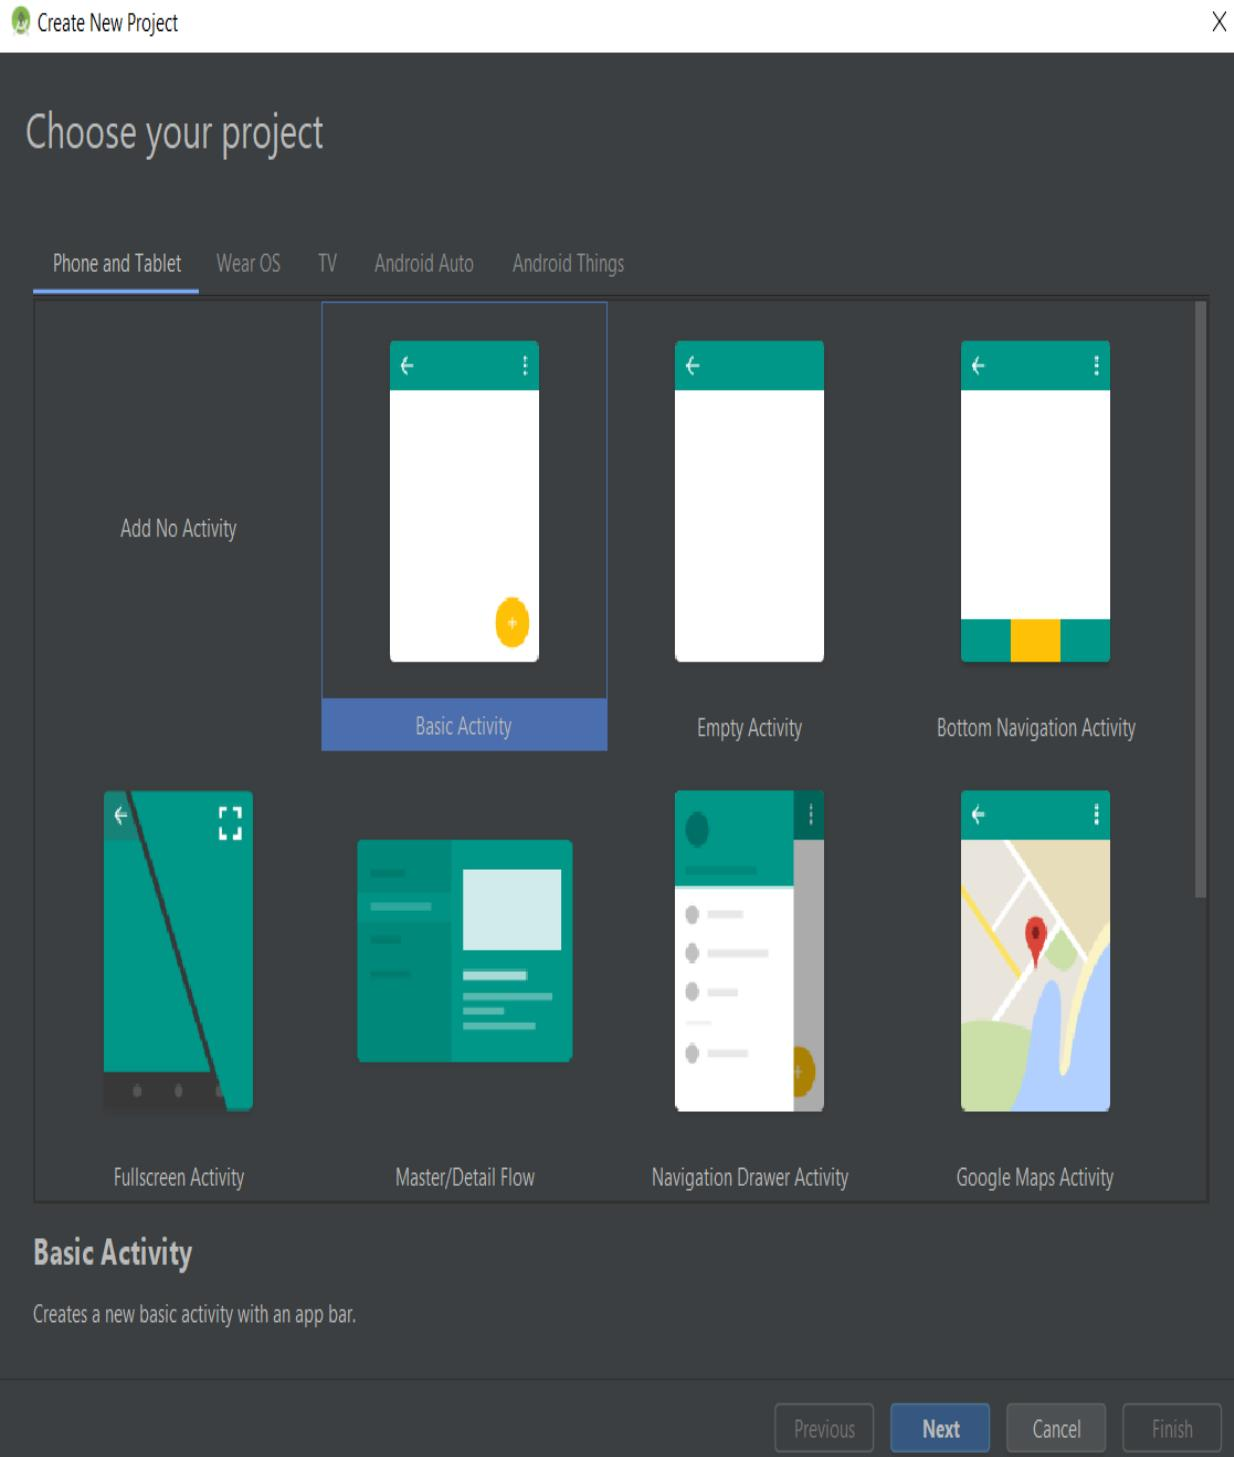

Figure 9.3: Selecting project template for Android
1. Select Basic Activity for the project template, as shown in *Figure 9.3*. Then, click on the Next button: